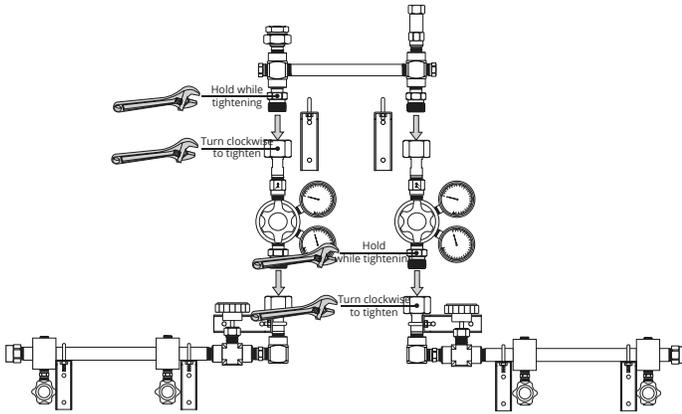

Figure 2.4 – Tightening Union Assemblies
The manifold is likely to be shipped in sections: two (2) header bars, two (2) regulator assemblies and the outlet module. Those sections are linked together by union assemblies (union nut, union adapter and union nipple). First, screw the union nuts by hand to their respective union adapters. Then, tighten each connection by using two wrenches (see Figure 2.4).